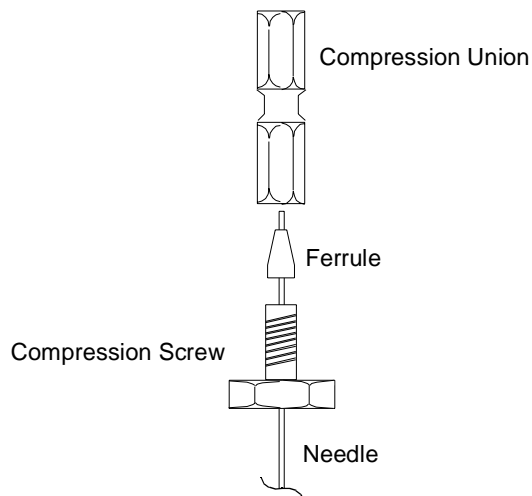

Figure 4-14 Setting the Ferrule
- a. Set the ferrule first (Figure 4-14), cinching it onto the replacement needle while both are outside the sample compartment. If the replacement needle comes with a pre-installed ferrule, go to step 6e.